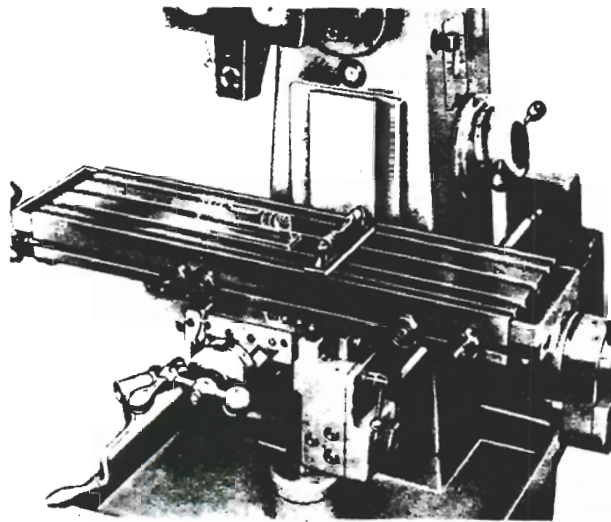

Figure 4
1. Using a precision level* at least 6" long, check table top at positions shown in figure 4.